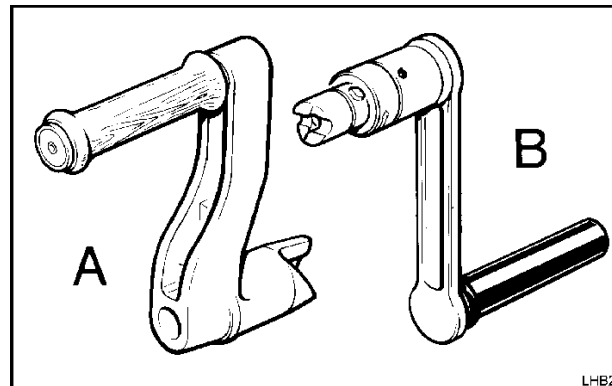

Figure 2.2.1 The Starting Handle
Insert the correct handle, refer to 'A' in 'Figure 2.2.1', into the starting housing.
Swivel the starting handle housing cover (A) to one side and insert the the correct handle, refer to 'B' in 'Figure 2.2.1', into the housing.